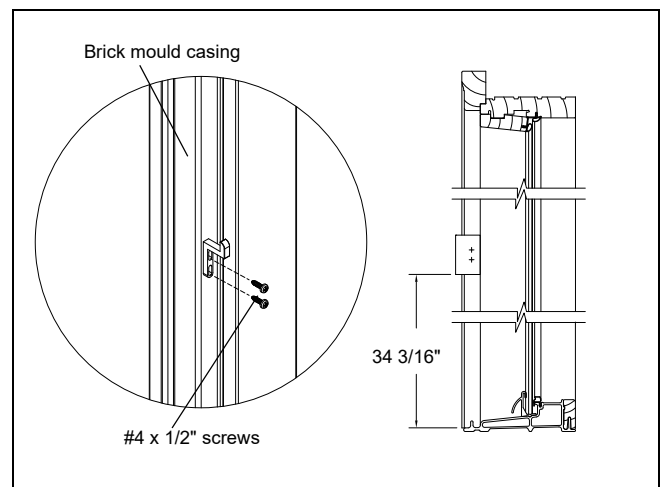

Figure 4
2. To mount strike plate on casing, cut out template below. Place bottom edge of template 34 3/16" (868) from the exterior top edge of the sill. With template at this measurement mark screw location. Attach strike with #4 x 1/2"(13) screws. See figure 4.